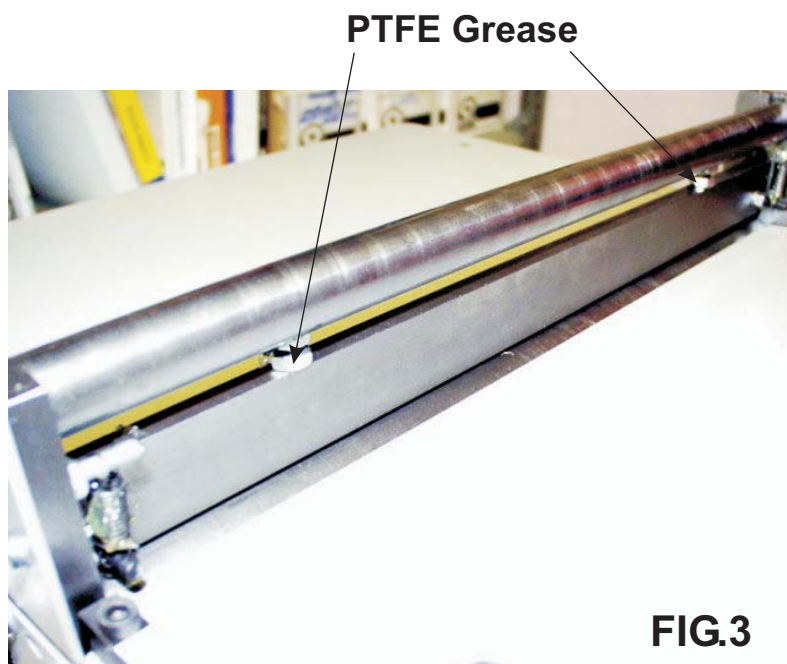

FIG.3
3. Liberally coat the top of the nuts and the areas of the shaft that contact the head of the nuts with PTFE grease, as shown in FIG.3.